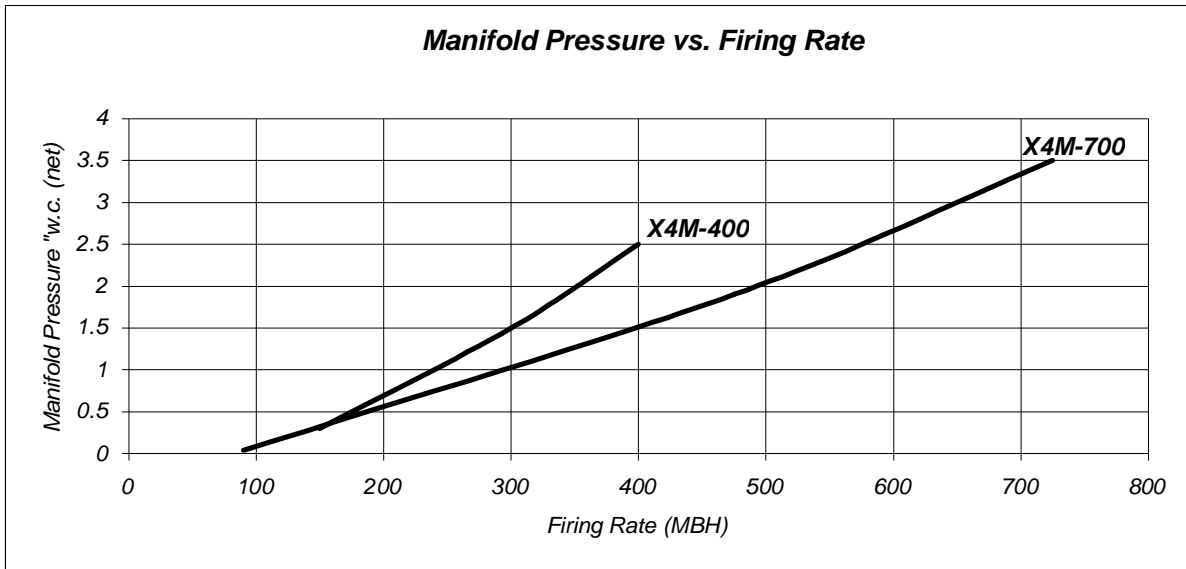

Figure 17: X4M Firing Rate vs Manifold Pressure
11.19 The manifold pressures shown are the gas pressures taken at the 1" tee and represent a zero furnace pressure (net manifold pressure). Therefore, the actual furnace pressure must be subtracted from these pressures to obtain the correct firing rate. Example: While firing an X4M-400 the Manifold pressure is 3.0" w.c. The furnace pressure from the manometer reads 0.5" w.c. Therefore, 3" - 0.5" = 2.5"w.c. The chart in Figure 17 shows 2.5" w.c. net manifold pressure is equal to 400,000 BTUH.
- 12.3 When no orifice is used, refer to the pressure/rate on figure 17, page 22 for the approximate manifold pressure (taken on orifice tee) for a given firing rate.